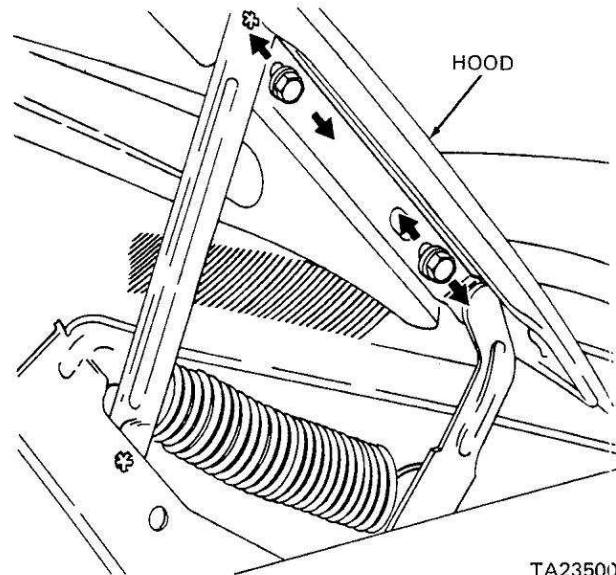

Figure 2-95. Forward and Backward Adjustment Points.
(1) To adjust the hood in the forward or backward direction, use the oversized and elongated screw holes shown in figure 2-95.